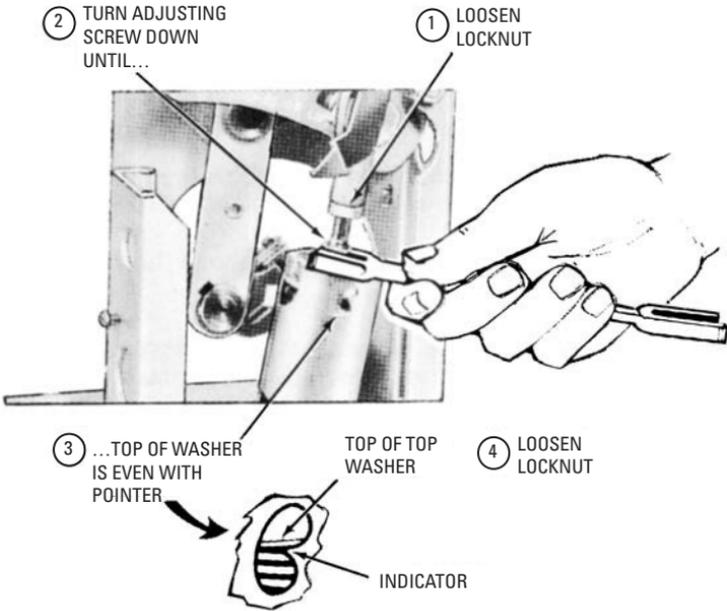

Figure 9-40 Using the adjusting screw to put tension on the valve.
3. Use the adjusting screw to put tension on the valve in the closed position (see Figure 9-40).
With the motor closed and the valve at the bottom of its stroke, loosen the locknut and turn the adjustment screw down until the top of the washer is even with the pointer (see Figure 9-40).